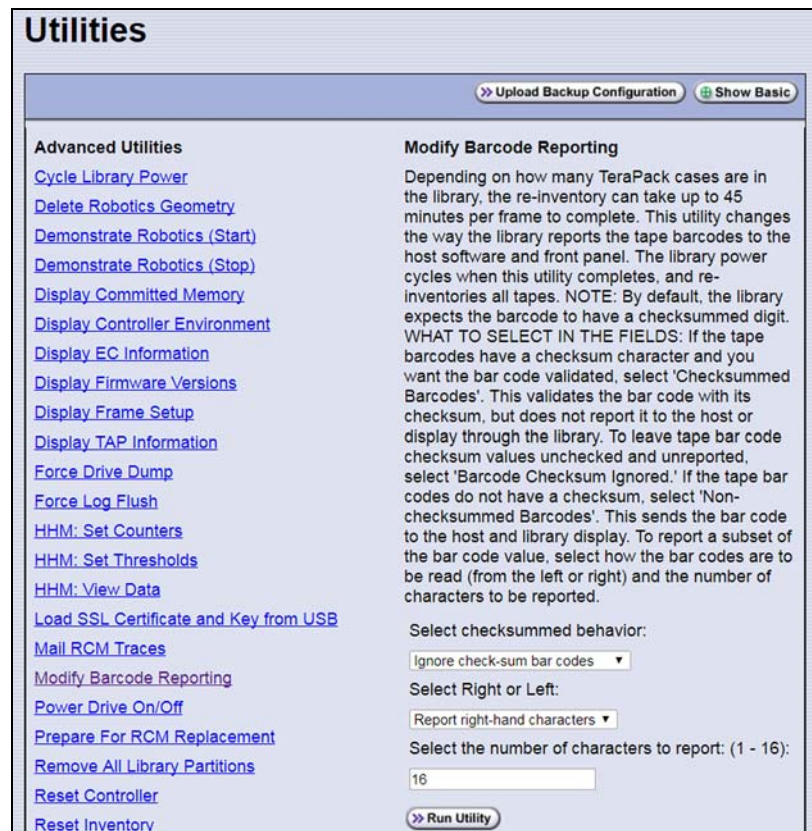

Figure 57 Use the Modify Barcode Reporting utility to change how the library handles barcode labels.
6. Select the **Modify Barcode Reporting** utility. The screen refreshes to show information about the utility. Figure 57 shows the default settings.